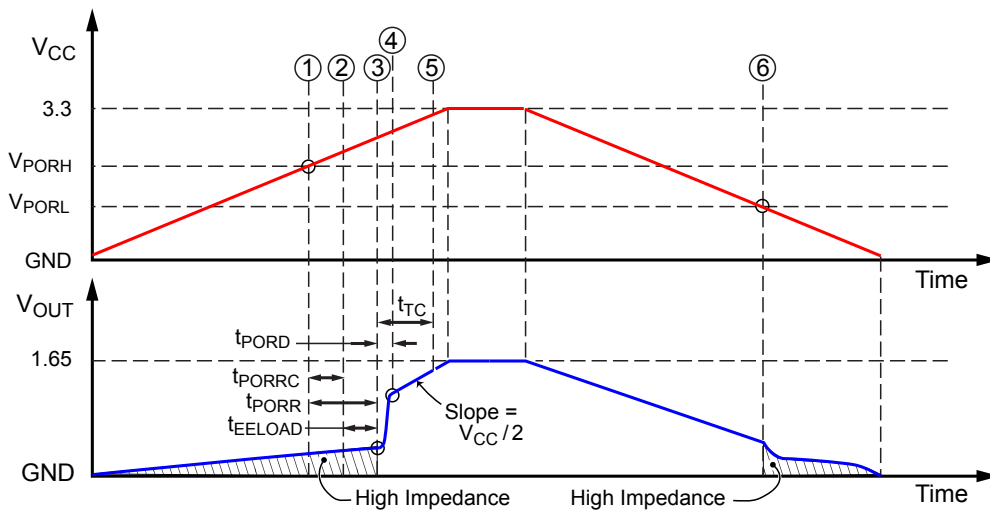
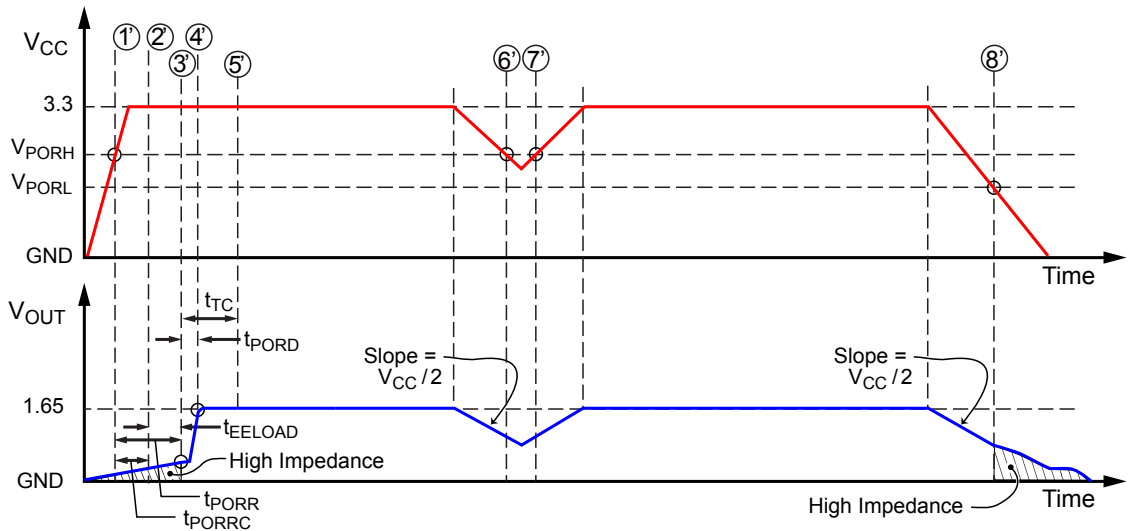

Figure 1: POR Operation: Slow Rise Time Case
Figure 2: POR Operation: Fast Rise Time Case
- **Power-Up.** At power-up, as V_{CC} ramps up, the output is in a high-impedance state. When V_{CC} crosses V_{PORH} (location [1] in Figure 1 and [1'] in Figure 2), the POR Release counter starts counting for t_{PORRC} [2], [2']. At this point, the EEPROM content will be loaded in volatile memory after t_{EELoad} [3],[3'] and the output will go to $V_{CC}/2$ after t_{PORd} [4], [4']. The temperature compensation engine will then adjust the